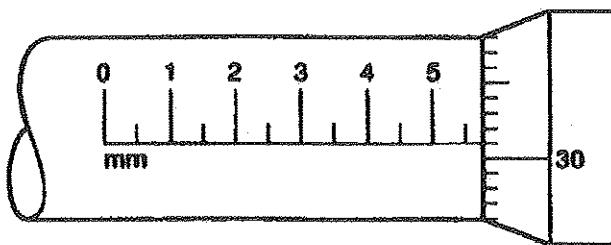

Figure 1b(ii) / Rajah 1b(ii)
- Figure 1b (i)**
*Nyatakan bacaan angkup vernier untuk **Rajah 1b(i)**.***Figure 1b(i) / Rajah 1b(i)**
ii. State the reading of the micrometer at Figure 1b (ii)